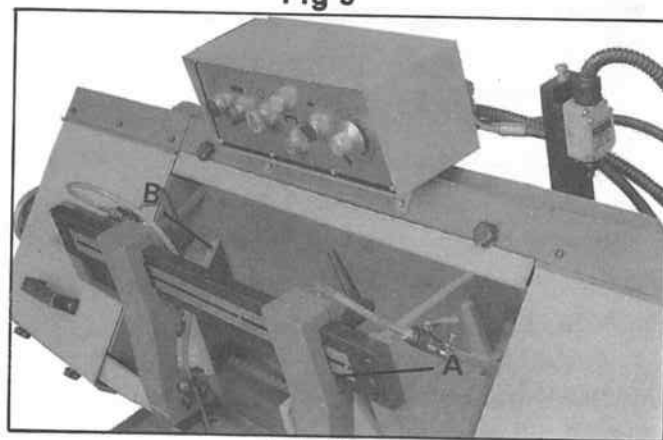

Fig 10
The blade guides should be set as close to the vise jaws as possible. The right blade guide bracket (A) Fig. 10 is not adjustable and is set at the factory to clear the right hand vise jaw. The left blade guide bracket can be moved to the left or right depending on the position of the left hand vise jaw. To move the left blade guide bracket, loosen the hand knob (B), position blade guide bracket and tighten hand knob (B).